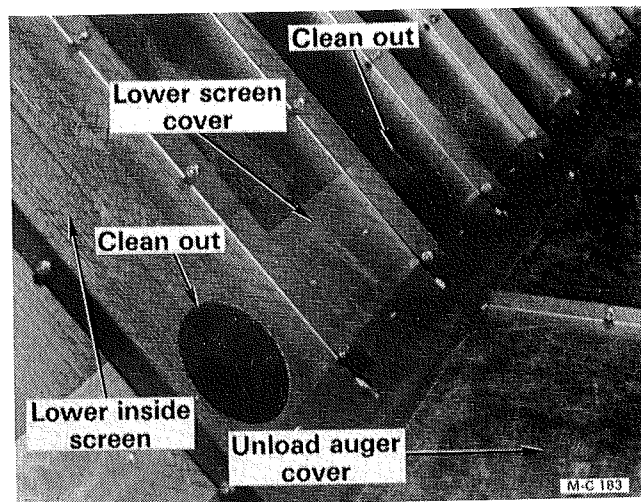

Figure 29
- C. There is a clean out in every other lower inside screen (between each outside quick drain port). Remove every other lower screen cover, see Figure 29. After the frozen grain has been loosened reinstall the lower screen covers and close the dryer rear door.
8. Open the dryer rear lower door. Remove the unload auger covers, see Figure 29. Clean out the unload auger and the grain metering rolls. Use a vacuum cleaner or compressed air.